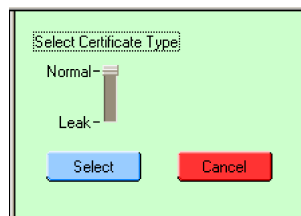

Figure 5-9: Example display - Certificate Type selection
1. Use menu: *Certificate > New >* See Figure 5-9
1. In Section 5.5.2, Figure 5-9: Set the *Certificate Type* to *Normal*; In Figure 5-10: Click on *Stored Data*. A file selection window opens.
1. In Section 5.5.2, Figure 5-9: Set the *Certificate Type* to *Leak*; In Figure 5-10: Click on *Stored Data*. A file selection window opens.
1. In Section 5.5.2, Figure 5-9: Set the *Certificate Type* to *Normal*; In Figure 5-10: Click on *Live Data*. > See Figure 5-14